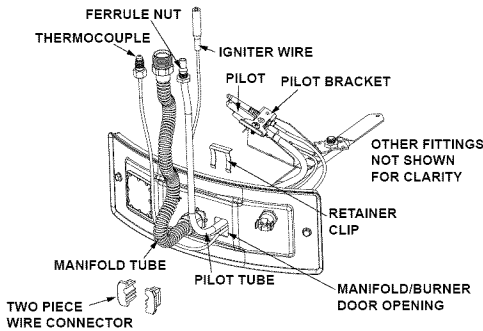

FIGURE 34.
2. Lift the retainer clip straight up from the back of the two piece wire connector (using a flat-blade screwdriver), then remove the two piece wire connector from the manifold door (Figure 34.)
- Position the new thermocouple through the bottom opening of the two piece wire connector (Figure 34). Be sure igniter wire is positioned through the small opening of the two piece wire connector.
- Lift the retainer clip straight up from the back of the two piece wire connector (using a flat-blade screwdriver), then remove the two piece wire connector from the manifold door (Figure 34.)
- Carefully bend the new pilot tube and thermocouple to match the bend of the manifold tube. **NOTE:** When bending, **DO NOT** crimp or crease the pilot tube or thermocouple. (Figure 34)
- Route the new pilot tube, thermocouple, and igniter wire through the manifold/burner door opening. (Figure 34)